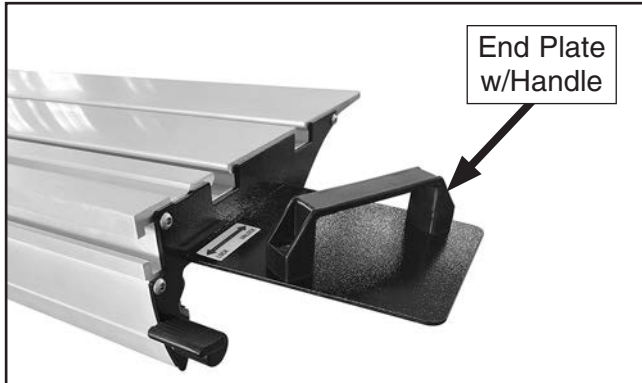

Figure 19. Slide table control end handle.
- Install end plate with handle, as shown in **Figure 19**, using the screws pre-installed in this location on the sliding table.